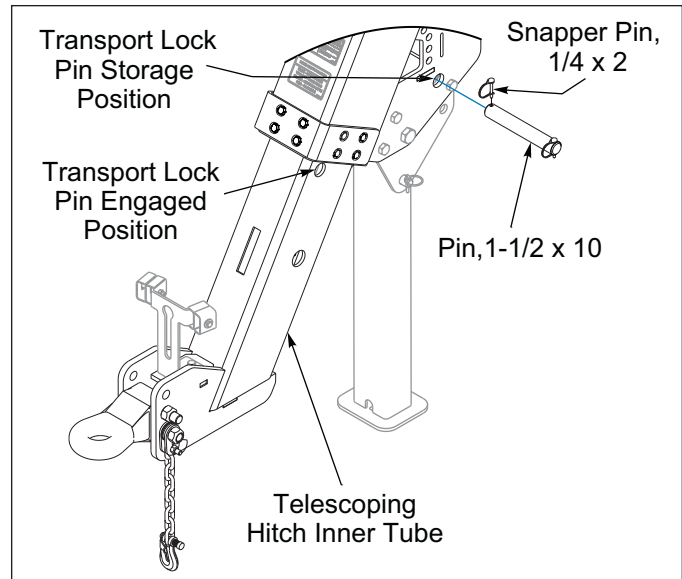

Figure 3-2: Telescoping Hitch Transport Lock Stored
3. Carefully back the tractor into position. Attach the hydraulic hoses to the tractor, raise the machine completely and remove Folding Seeder Telescoping Hitch Transport Lock Pin and place it in its storage position. **See Figure 3-2.** Slowly extend or retract the Telescoping Hitch until the Ring Hitch is in line with the tractor Clevis Hitch.